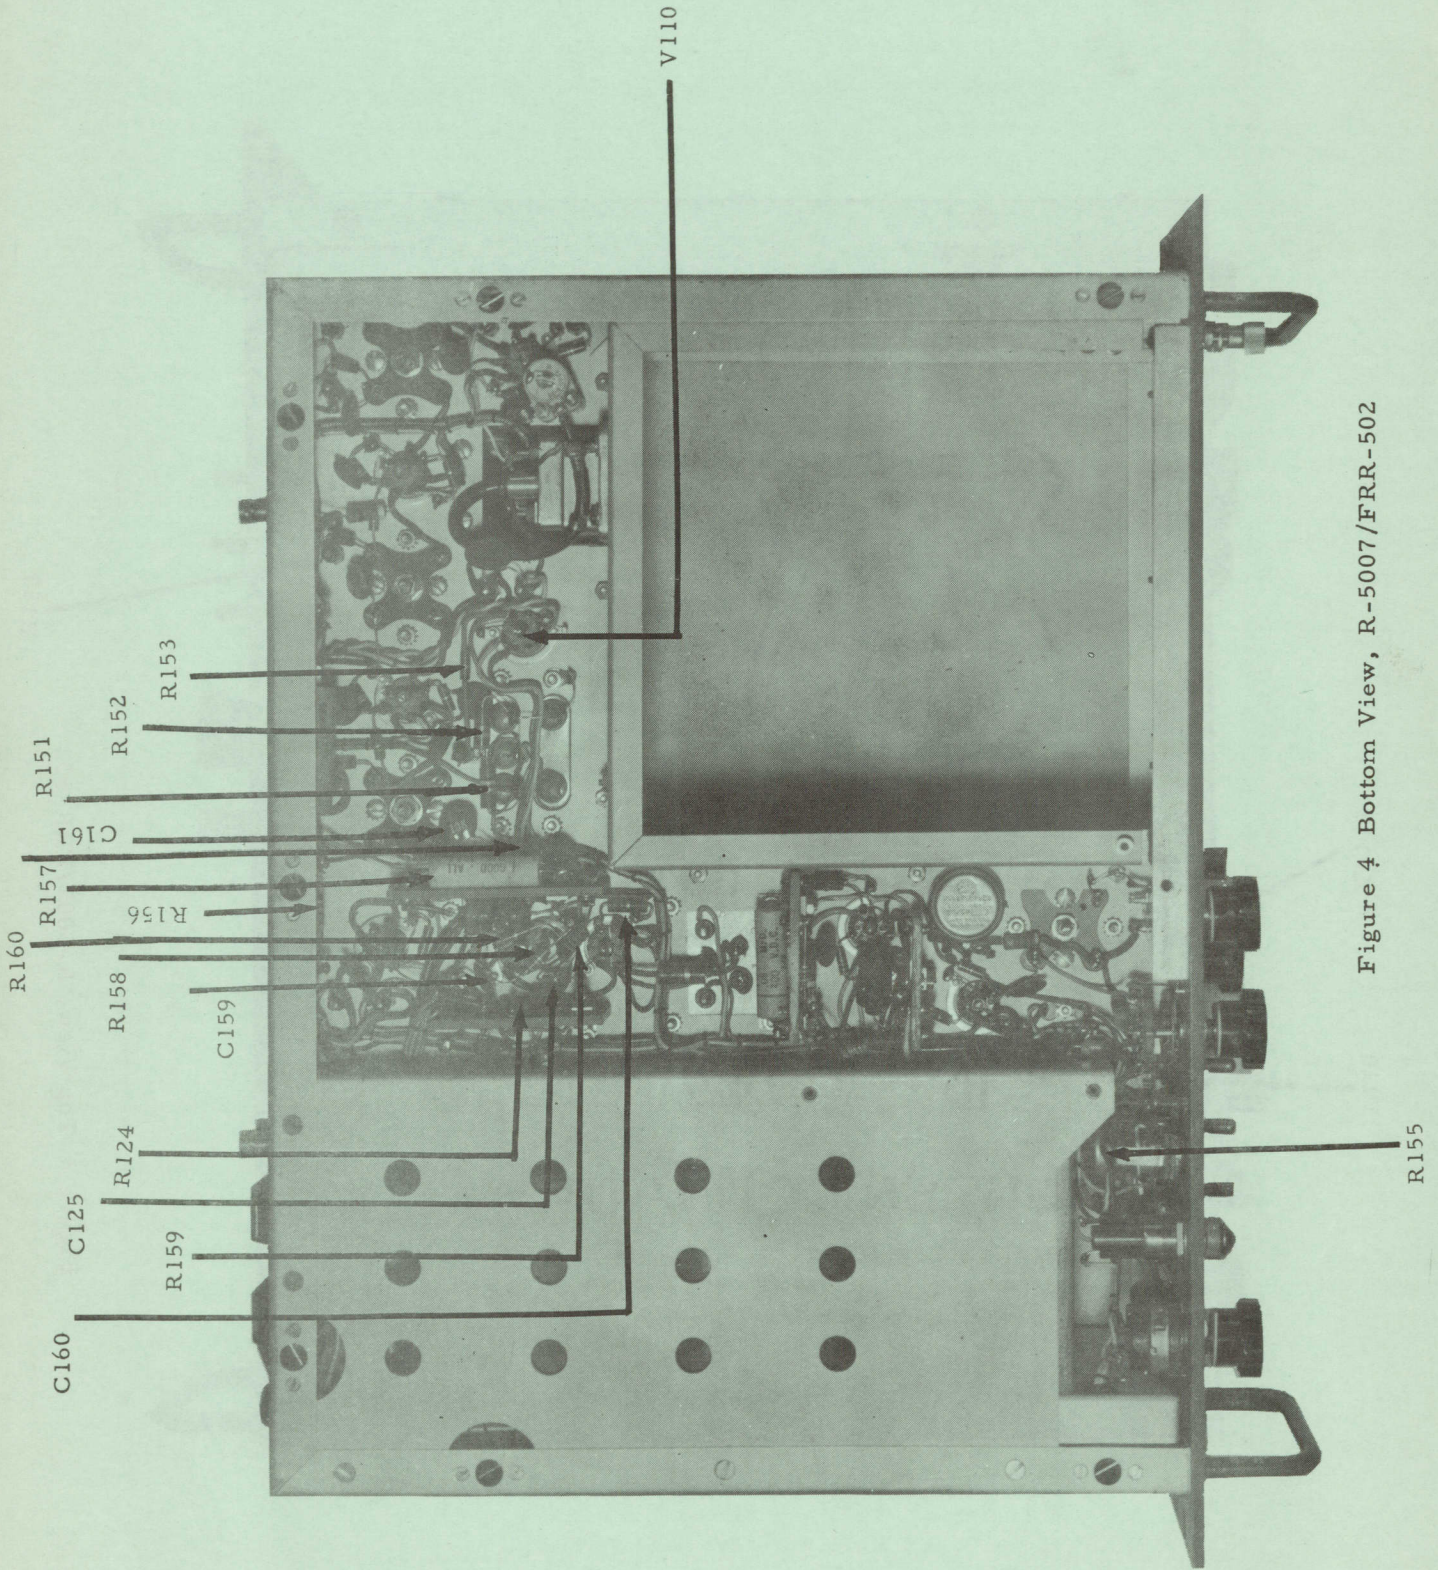

Figure 4 Bottom View, R-5007/FRR-502
(1) A control tube is introduced into the first audio frequency amplifier grid circuit to control the bias of this stage. The control tube is operated by the amplitude of the negative DC voltage developed across the second detector load resistance. With signals below a pre-determined and adjustable level, the first audio tube is maintained in a current "cut off" condition, and in consequence, there is no audio output from the receiver. With signal levels in excess of the pre-determined level, the excess bias is removed from the first audio amplifier, which then operates in a normal manner.
(2) Reference should be made to Figures 4, 5, and 7. The Squelch control tube, V110, introduced by this modification, is controlled by the rectified voltage appearing across the second detector load resistance R118. This negative voltage is filtered by R157, C161 to remove the audio frequency components of the signal, and applied then to the grid of V110, a 6AB4 tube.
(3) With applied signal of amplitude less than threshold, V110 is in a conducting condition as the cathode voltage is negative with respect to the grid, and the plate current causes a voltage drop across the plate load resistor, R153. This causes the grid of V104 to fall below its cathode voltage sufficiently to cut the tube off.
(4) As the input signal level is increased, the negative voltage applied to the grid of the control tube increases, and the plate current decreases allowing the grid of V104 to approach normal operating condition.
(5) With V110 in the "cut off" condition, the plate voltage rises to its maximum at which point the diode section of V104 limits and prevents its grid from being driven positive. V104 operating bias voltage is developed in the grid circuit resistors R160 and R158.
(6) In operation, the rate of change of bias of V104 is such that a 3 db change in signal level is sufficient to change the audio output level from -30 dbm to +25 dbm -- its full rated power.
(7) To maintain the overall fidelity of the audio frequency section of the receiver, after incorporation of this modification the following changes are made:
- Figure 4 Bottom View, R-5007/FRR-502